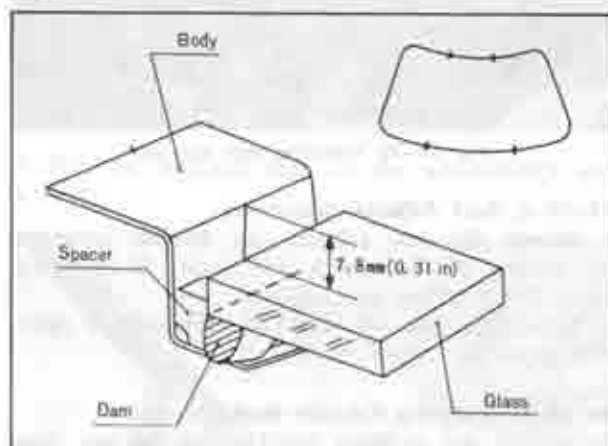

Fig. 14-33 Adjusting clearance
2. When installing the glass, 7.8 mm (0.31 in) clearance should exist between the body and the glass. Check the clearance at the four portions shown in Fig. 14-33.